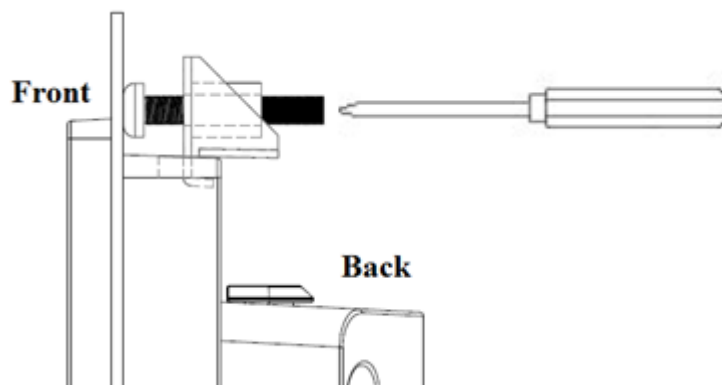

Figure 2.10 Fasten the hook bracket
4. Tighten the screws to affix the panel PC in place (Figure 2.10).